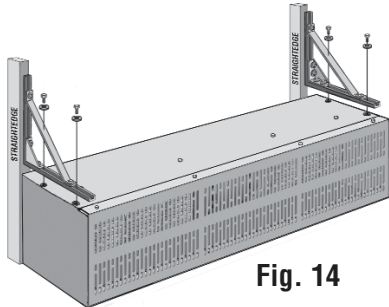

Fig. 14
1. Using a straight edge, align the back of the bracket with the back of the air curtain so they are flush. Using threaded inserts along with four $\frac{3}{8}$ " x 2" hex bolts, attach the brackets to the top of the air curtain . (See Fig. 14)